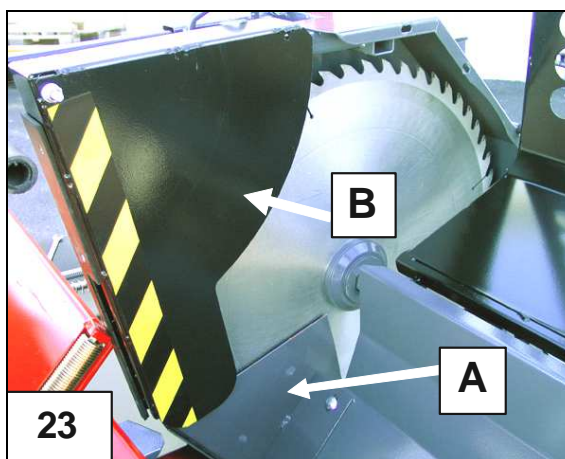

Fig. 23. Removing the crosscut saw-blade
7.1.1 Removing the crosscut saw-blade (Figures 23 and 24)